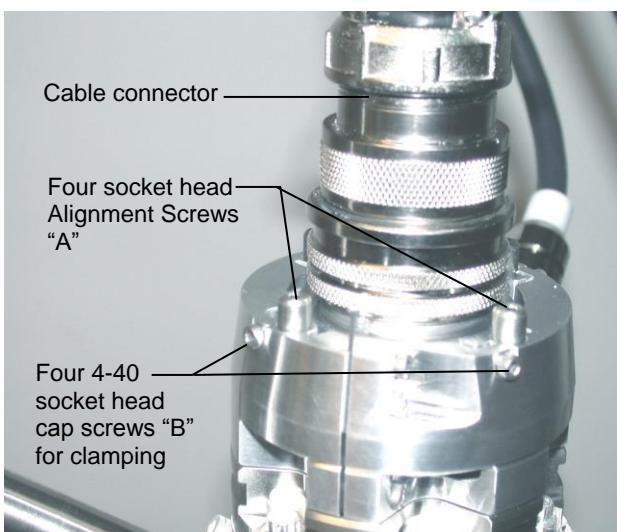

Fig. 4.3-4 Adjustable Feedthrough Assembly with Alignment Screws
- a. Using a $\frac{3}{32}$ " Allen wrench, loosen the four 4-40 socket head cap screws ("B" in Fig. 4.3-4) in the connector shell that clamp the alignment screws. Do not loosen any other screws on the connector.
6. Adjust the four Alignment Screws by turning the socket head ("A" in Fig. 4.3-4) to maximize the beam current into the Faraday cup. As Alignment Screws are being rotated, the firing unit assembly is being translated with respect to the anode aperture. The optimum position of this assembly produces an electron beam that travels down the center of the gun into the Faraday cup.
- a. Tighten the four 4-40 socket head cap screws ("B" in Fig. 4.3-4) to clamp the Alignment screws.